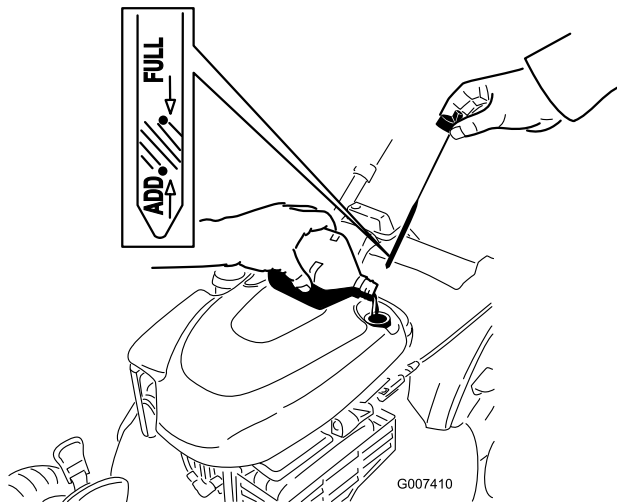

Figure 5
1. Remove the dipstick (Figure 5).
2. **Slowly** pour oil into the oil fill tube until the oil level reaches the **Full** line on the dipstick (Figure 5). **Do not overfill.** (Max. fill: 20 oz., type: SAE 30 detergent oil with an API service classification of SF, SG, SH, SJ, SL, or higher.)